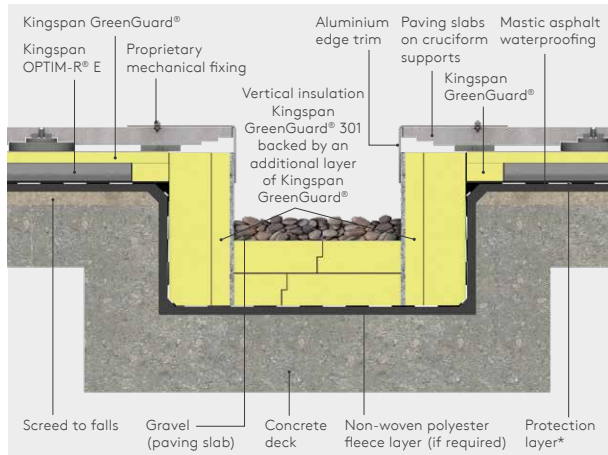
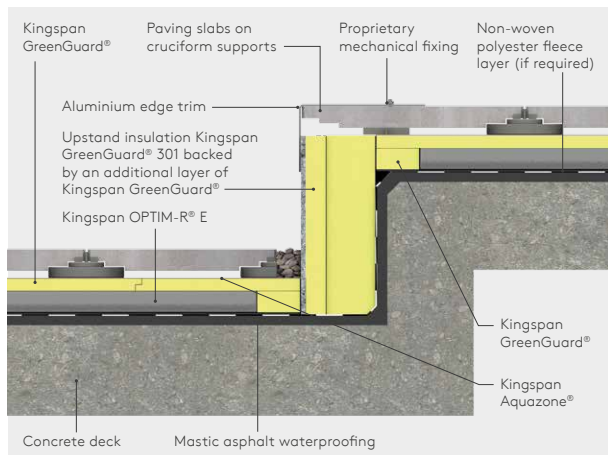

Figure 9 - Internal gutter
Figure 11 - Change in level
- Where an internal gutter is formed, vertical insulation should be used to reduce thermal bridging, using Kingspan GreenGuard® GG301 with a separate backing layer of Kingspan GreenGuard® (see Figure 9). A similar approach can also reduce losses where a change in levels is required (see Figure 11).